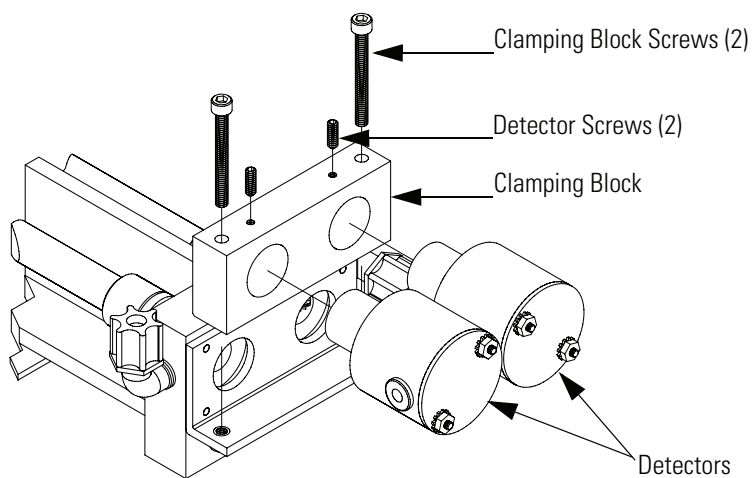

Figure 7-12. Replacing the Detectors
3. Loosen the two screws securing the detector clamping block to the optical bench and remove the clamping block and detectors (Figure 7-12).